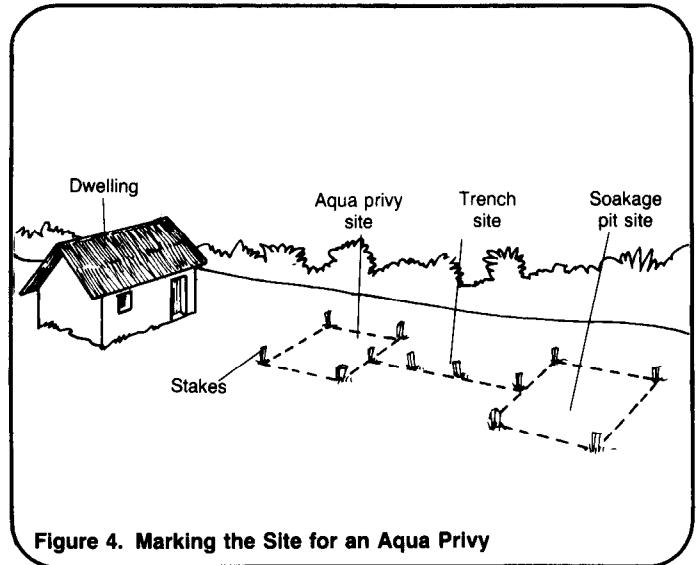

Figure 4. Marking the Site for an Aqua Privy
2. Using the location map and a measuring tape, locate the sites for the aqua privy vault, soakage pit, and overflow pipe, and mark them on the ground with wooden stakes or sticks as shown in Figure 4.